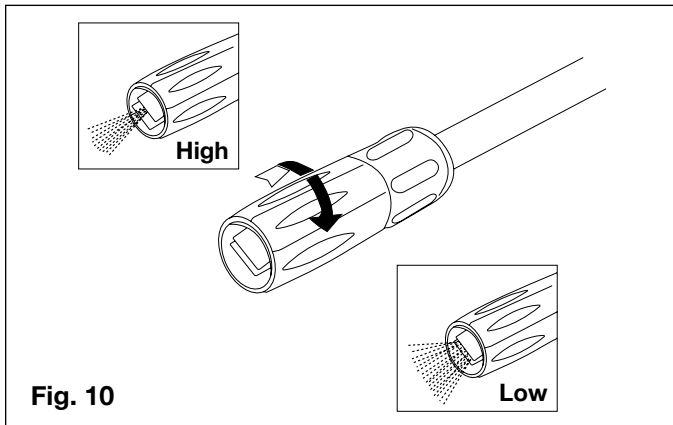

Fig. 10
- Water jet can be adjusted from low pressure fan spray to high pressure pencil spray by turning the nozzle as shown (Fig. 10).